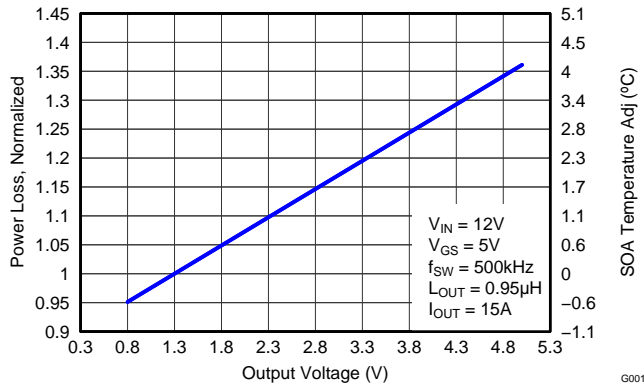

Figure 7. Normalized Power Loss vs. Output Voltage
- Normalized Power Loss for output voltage \approx 0.97 (Figure 7)
- SOA adjustment for output voltage \approx -0.3°C (Figure 7)